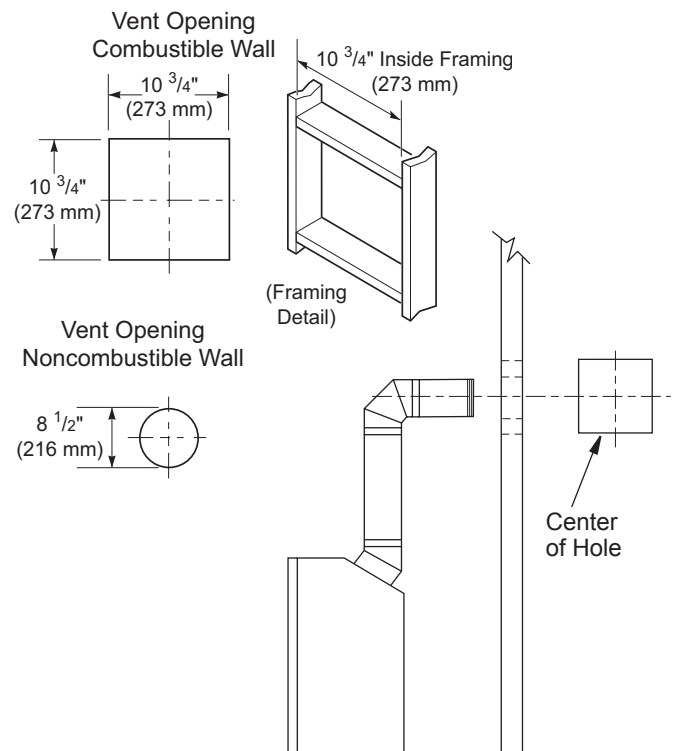
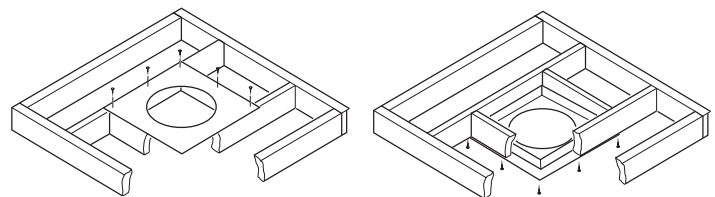

Figure 9 - Vent Opening Requirements
Figure 20 - Installing Firestop
5. Carefully determine the location where the vent pipe assembly will penetrate the outside wall. The center of the hole should line up with the center-line of the horizontal vent pipe. Mark the wall for a 10 3/4" x 10 3/4" square hole. Cut and frame the square hole in the exterior wall where the vent will be terminated. If the wall being penetrated is constructed of noncombustible material, such as masonry block or concrete, a 8 1/2" hole with zero clearance is acceptable (see Figure 9).
1. Cut a 10 3/4" square hole in the ceiling using the locating hole as a center point. The opening should be framed to 10 3/4" x 10 3/4" (273 mm x 273 mm) inside dimensions, as shown in Figure 9 on page 8 using framing lumber the same size as the ceiling joists. If the area above the ceiling is an insulated ceiling or a room, nail firestop from the top side. This prevents loose insulation from falling into the required clearance space. Otherwise, install firestop below the framed hole. The firestop should be installed with no less than three nails per side (see Figure 20).
3. Cut a hole in the roof using the locating hole as a center point. (Cover any exposed open vent pipes before cutting hole in roof.) The 10 3/4" x 10 3/4" hole must be measured on the horizontal; actual length may be larger depending on the pitch of the roof. There must be a 1" clearance from the vent pipe to combustible materials. Frame the opening as shown in Figure 9, page 8.